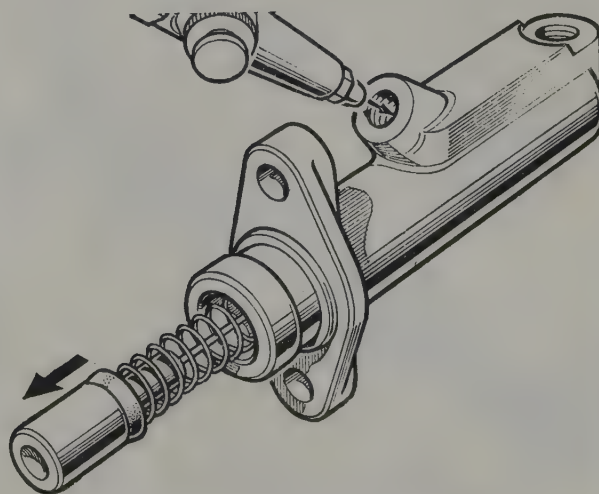

Fig. 5.4. Expelling piston from master cylinder
- 3 Removal of the piston assembly may be facilitated by the application of a low pressure air line to the outlet port (Fig. 5.4).